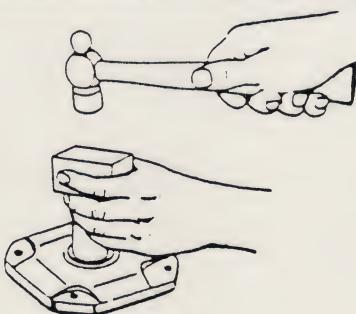

Figure 3
E. Protect seal lips when handling; seal leakage will result if these are damaged. If a seal with rubber coating on the outside diameter (O.D.) is used, no Permatex is necessary. If no rubber coating is on seal O.D., coat seal cage bore with Permatex No. 3 or equivalent. Coat seal lips with oil and carefully work seal into position. Before sliding seal into position, protect seal lips from shaft keyway edges by wrapping shaft with thin, strong paper coated with oil. Position garter spring toward the inside of the unit. Place a square faced pipe or tube against the seal O.D. and drive or press seal until fully seated as shown in Figure 3. Do not strike seal directly.